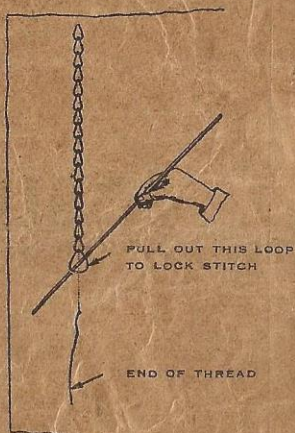

Fig. 3.
9. **To Lock Stitch.** The stitch can also be locked by pulling the last loop out from the chain underneath the material as illustration (Fig. 3).